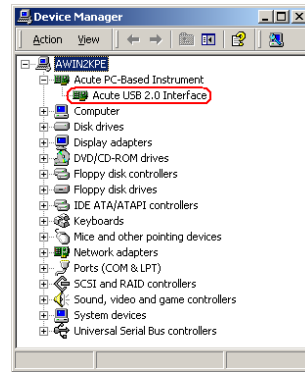

Figure 6
- (5) You will see the “Acute USB 2.0 Interface” in the Device Manager (Figure 6).